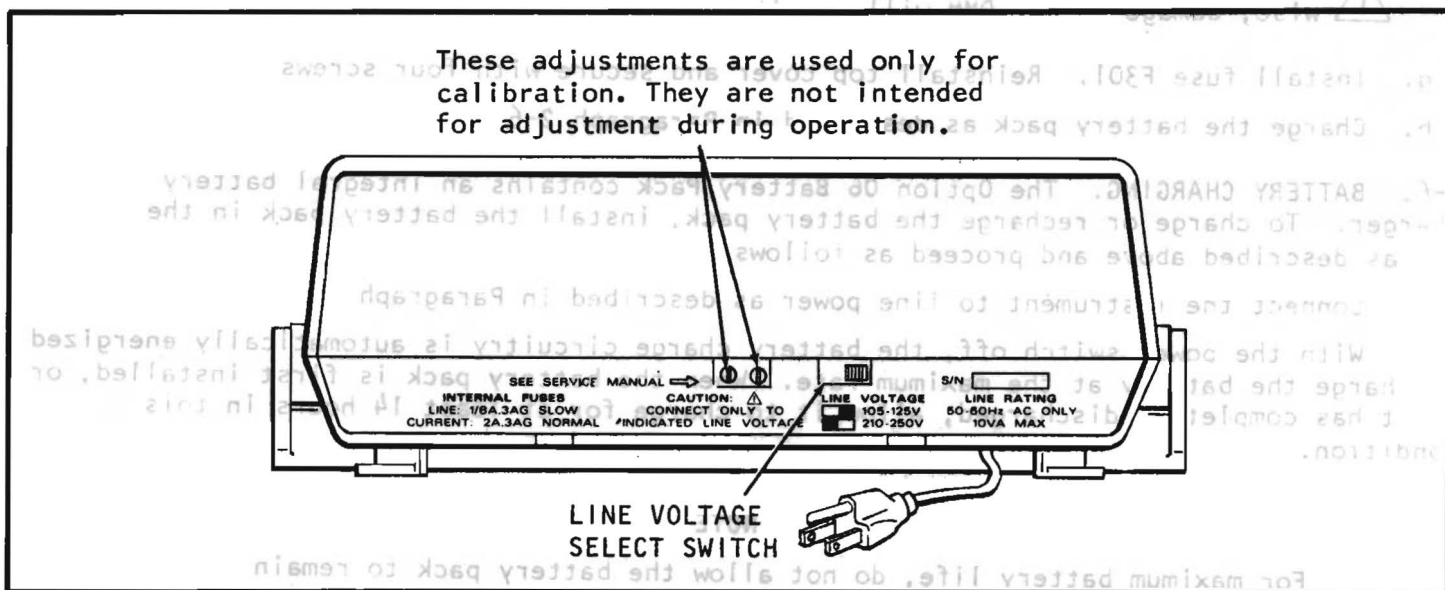

FIGURE 2-1. Rear View Showing Line Switch.
a. Set the LINE VOLTAGE switch on the back of the instrument to correspond to the line voltage available. Ranges are 105 to 125 volts and 210 to 250 volts ac as shown in Figure 2-1.